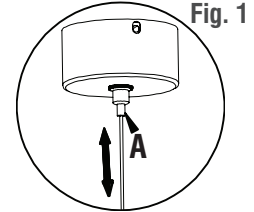

Fig. 1
- Decide the height at which the product will hang. There is a button in the middle of both ceiling covers (Fig. 1). Push the button (A) to reduce the height (if required). Make sure both fixing cables are adjusted to the same length to ensure the product hangs level.